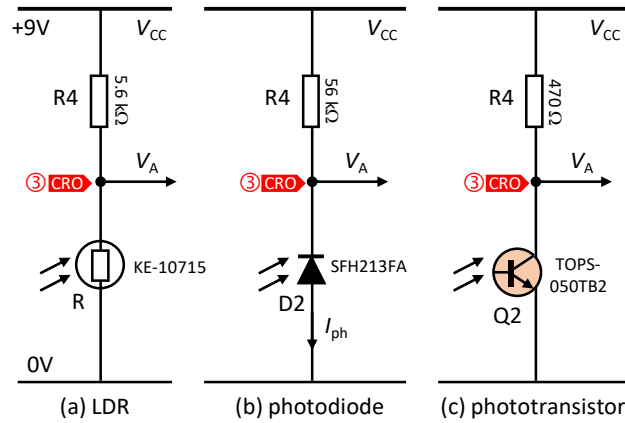

Fig. 3. The front-end of photodetection circuits when light-sensing elements are (a) LDR, (b) photodiode or (c) phototransistor.
The detectors of interest here are limited to optoelectronic devices which receive light (opto-) and output (-electronics) signal. The 3 basic detectors as summarized in Table 2 can be biased as part of a *voltage divider* shown in Fig. 3.
1. The *light-dependent resistor* (LDR) is resistive ( $M\Omega$ ) in the dark but quite conductive ( $< k\Omega$ ) when exposed to ambient light. With connection as shown in Fig. 3(a), the light-dependent voltage  $V_A$  can be determined from  $[R/(R+R_4)] \times V_{CC}$
► **Build** the LDR detector as shown in Fig. 3(a). Put a red LED (blinks at 5 Hz) close to the LDR surface. **Test** it: 1) use the CRO to probe the voltage across the LDR ③, observe it with respect to  $I_{LED}$  ②, 2) block the beam and note how the waveform changes.  $\boxed{\text{③} \text{ ②} \text{ ③}(1,0)}$  where 1 means with beam, 0 without beam (broken beam)
► Increase the LED blink frequency to 5 kHz. **Build & Test.**  $\boxed{\text{③} \text{ ②} \text{ ③}(1,0)}$
2. The *photodiode* (D2) operates in the third quadrant in the  $I$ - $V$  space, 385 Chapter 8, and is thus reverse biased in Fig. 3(b). In the dark, the resistance of the photodiode is so high the current is practically zero. With light exposure, the diode passes a small photocurrent  $I_{ph}$ , thus the voltage across it drops by  $I_{ph} \cdot R_4$ .
► **Build** the photodiode detector as shown in Fig. 3(b). Put an IR LED (blinks at 5 kHz) close to the diode surface. **Test** it: 1) use the CRO to probe the voltage across the diode, 2) block the beam and note how the waveform changes.  $\boxed{\text{③} \text{ ②} \text{ ③}(1,0)}$
► (Re-) **Design** it: vary the bias resistors ( $R_3$  for the emitter,  $R_4$  for the detector) to get a signal ( $V_A$ ) with “better shape and size”. “Better shape” means the waveform at the detector ( $V_A$ ) is as close to those at the emitter as possible (square wave). “Better size” means the waveform has a large peak-to-peak voltage,  $V_{p-p}$ . Ideally,  $V_{Low}$  should be as close to the negative rail or GND (0 V) and  $V_{High}$  should be as close to the positive rail (9 V) as much as possible. Then, **Build & Test** as above.  $\boxed{\text{③} \text{ ②} \text{ ③}(1,0)}$
3. The *phototransistor* (Q2) provided is an npn BJT with a transparent window, allowing light to fall on to the base, generating the base current  $I_B$  as in standard (windowless) BJT. The phototransistor thus does not require electrical connection to the base, leaving only two terminals for bias as shown in Fig. 3(c). In the dark, the transistor is off, the collector voltage ( $V_C$  or  $V_A$  in Fig. 3(c)) is pulled up (reaches the supply
► **Build** the phototransistor detector as shown in Fig. 3(c). Put an IR LED (blinks at 5 kHz) close to the transistor surface. **Test** it: 1) use the CRO to probe the voltage across the transistor, 2) block the beam, note how waveform changes. 📁②③(1,0)
► (Re-) **Design** it to get “better shape and size”: (same as the photodiode part described above). Then, **Build & Test** as above. 📁②③(1,0)